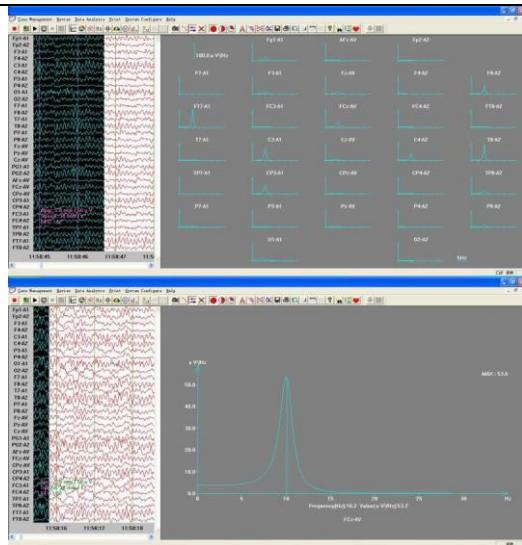

Figure 4-15
-> "Power Spectrum Graph" or click button to enter the power spectrum interface, as shown in Figure 4-15.